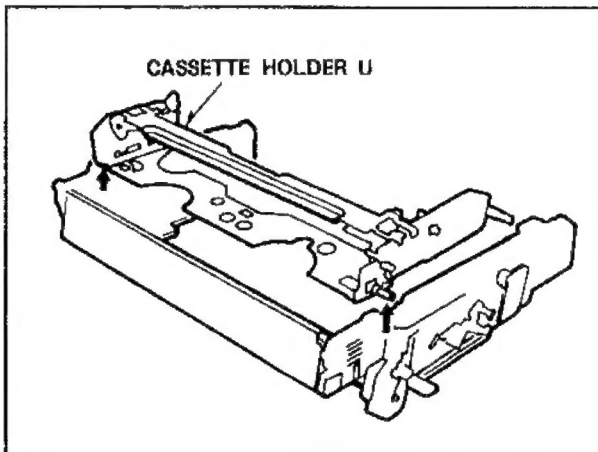

Fig.M46
2. Lift up the Cassette Holder Unit as shown in Fig.M46.